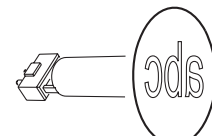

Figure 22. Correct gobo orientation
Correct gobo orientation is critical. Read the guidelines in Figure 22 carefully before installing a gobo.
5. Insert the new gobo in the holder with the side that must face towards the lamp facing upwards, towards the spring (see Figure 21 and Figure 22).
The orientations shown in Figure 22 are correct in most cases, but consult your Martin dealer or gobo supplier if you are in any doubt about the orientation of a specific gobo type.